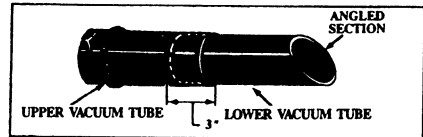

Figure 9
9. Push the two pieces of the Vacuum Tubes together until the straight end of the Lower Vacuum Tube bottoms out inside the flared end of the Upper Vacuum Tube (about 3 inches). Figure 9.
6. Push the two pieces of the Vacuum Tubes together until the straight end of the Lower Vacuum Tube bottoms out inside the flared end of the Upper Vacuum Tube (about 3 inches). Figure 9.